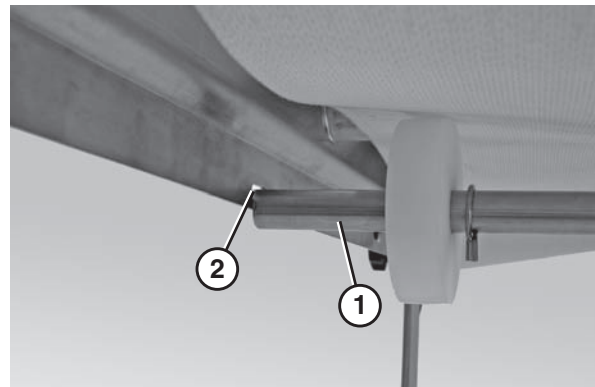

Figure 27
2. Push up on the return shaft (Figure 27, item 1) and slide the notched end of the shaft through the small slot (Figure 27, item 2) on the opposite side of the frame.